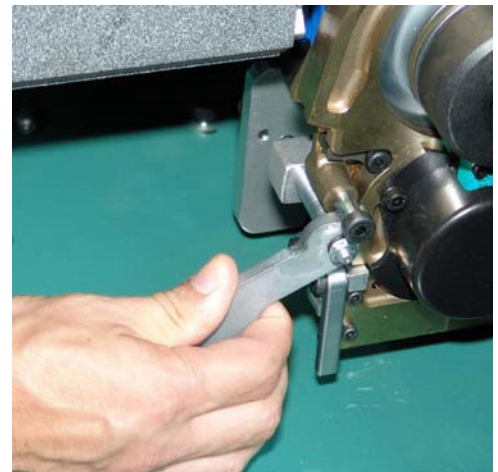

Figure 3-6: Guide Strap
3. Lower the pinch lever (**Figure 3-6: 1**) to securely contain the strap. Close the access door.